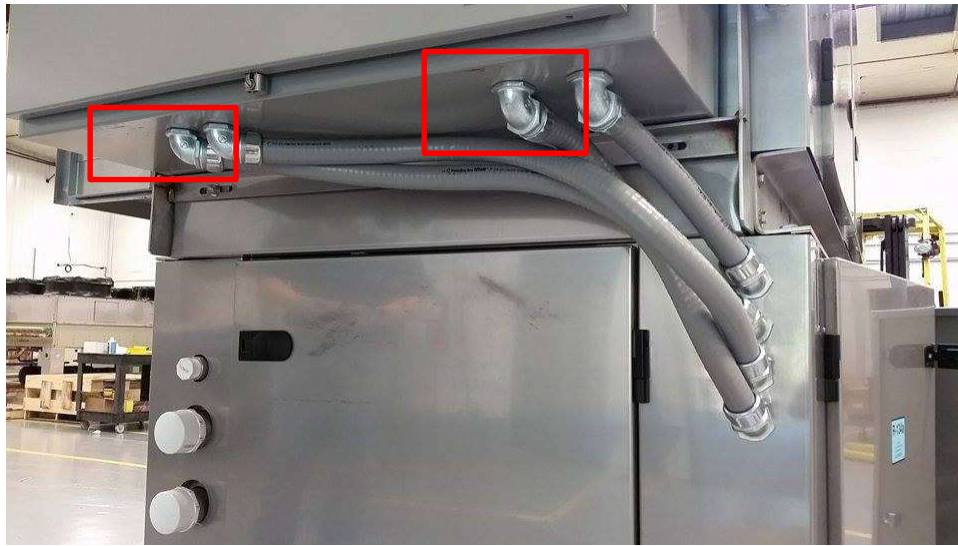
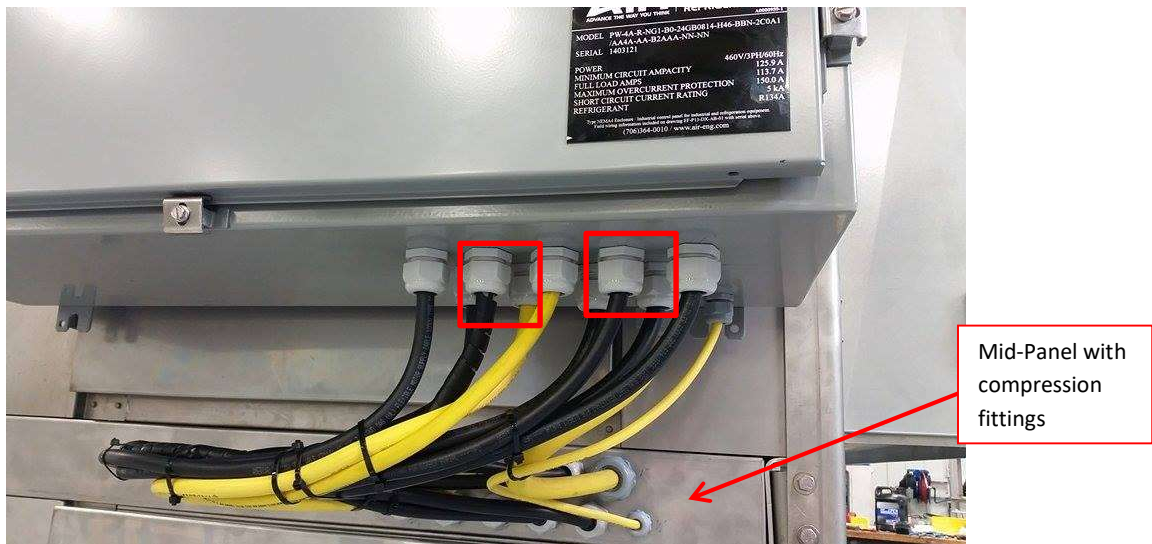

Figure 6 - Electrical fittings for bottom section (condensing unit) – Metal Liquid Tight
Figure 7 - Electrical fittings for bottom section (condensing unit) – Compression Liquid Tight
9. Loosen the fitting and pull the cables out of the panel. Depending on the serial number, some fittings are Metal Liquid Tight (Figure 6) or Compression Liquid Tight (Figure 7).
10. If the design has Compression Liquid Tight type fittings, the cables pass thru a mid-panel which is attached to the top section. Cut the Zip ties and loosen these fittings as well and remove the cables from the mid-panel (Figure 7). Remove only the cables that are necessary (cables removed on steps 6 and 7 above).